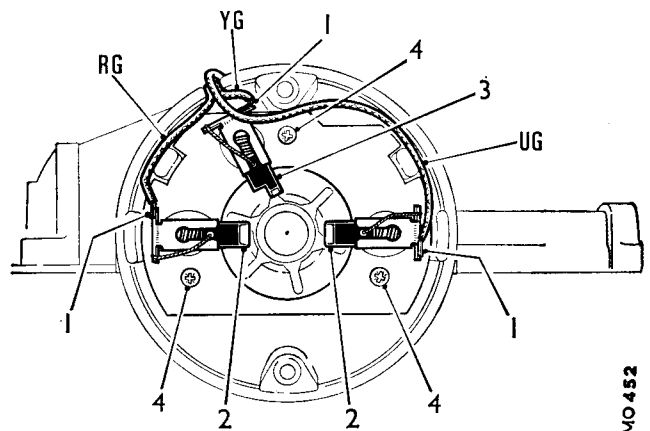

Fig. Nb.9
- (20) Examine the brush gear assembly, which must be replaced before either of the main brushes is worn to the minimum length of $\frac{3}{16}$ in. (5 mm.), or the narrow section of the third brush (two-speed models) is worn down to the full width of the brush (see Fig. Nb.9).
- (21) Check that the brushes move freely in the boxes and test the brush spring pressure with a push-type gauge. The gauge reading should be 5 to 7 oz. (140 to 200 gm.) when the bottom of the brush is level with the end of the slot in the brush box (see Fig. Nb.9). Renew the brush gear assembly if the springs are unsatisfactory.
- (22) Test the armature for open- or short-circuits. Use a mains test lamp of 110 volts and 15 watts and renew the armature if faulty.
- (23) Examine the gear wheel for damage or excessive wear. Renew if necessary.
- (24) Reverse the dismantling procedure in (13) to (19), noting the following points.
- (a) If either the brush gear or switch assembly requires replacing, unsolder the motor supply leads at the brush boxes. If a new switch is to be fitted to a single-speed motor remove the third wire, yellow and green, at the switch terminal. Use high-melting-point solder to re-connect the leads to the brush boxes, in the order shown in Fig. Nb.9, when refitting the new assembly(ies); ensure that the leads are inside the recess in the switch unit moulding when refitting it to the gearbox.